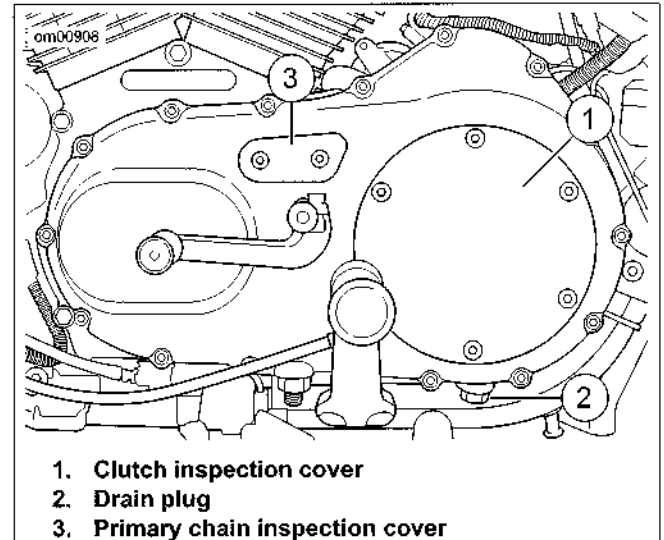

Figure 1-15. Primary Cover
5. See Figure 1-15. Remove screws with washers. Remove clutch inspection cover (1).
4. See Figure 1-15. Position a suitable container under transmission drain plug (2).